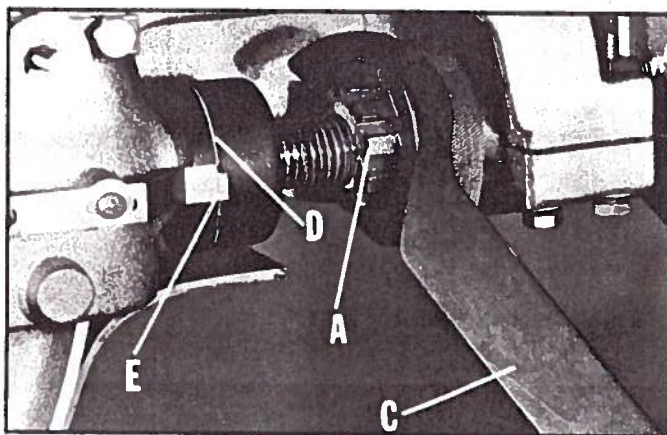

Fig. 20
5. Turn blade tension adjusting nut (A) Fig. 20, with special spanner wrench (C), supplied with the saw, until the two indicator lines (D) and (E) are in alignment with each other. The blade is then properly tensioned.